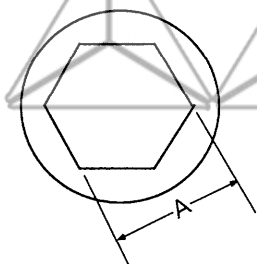

Figure 4. Across-flats dimension (A) on lug screws.
6. Attach the neutral cables to the lugs. Tighten each lug screw to the torque range specified in Table 2 for the “across-flats” dimension of the screw, as shown in Figure 4.